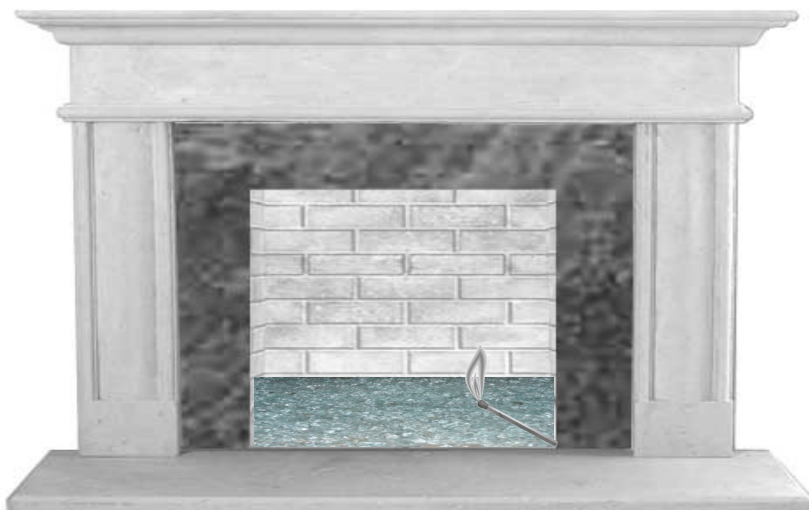

Figure 4
- 1.) Begin by completely covering **BURNER TUBES** (See figure 4) with glass first.
1. Place lighted match (See Figure 4) on glass near inlet end of burner. **DO NOT HOLD MATCH IN HAND!** Move away from front of fireplace.